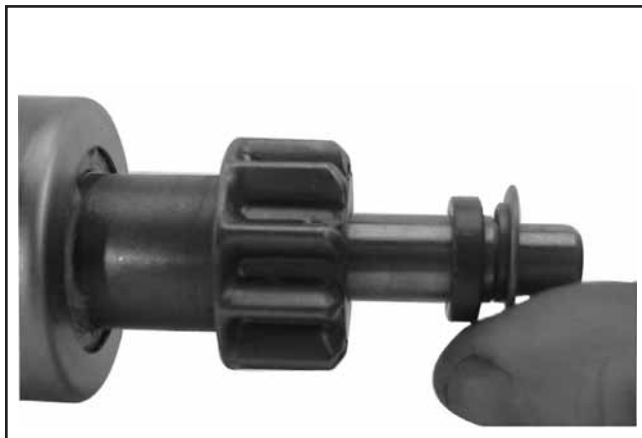

Figure 7-56. Installing Thrust Washer.
3. Install the offset thrust (stop) washer so the smaller "offset" of the washer faces the retainer/collar. See Figure 7-56.